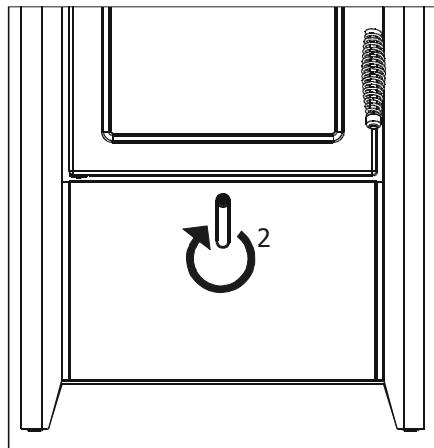

Fig.6 Secondary air inlet
Secondary air, as mentioned above, allows the completion of combustion and increases the efficiency (lever in pos.2-fig.6).
The position of the lever in fig.6 determines the nominal output, minimizing primary air and the secondary air inlet.